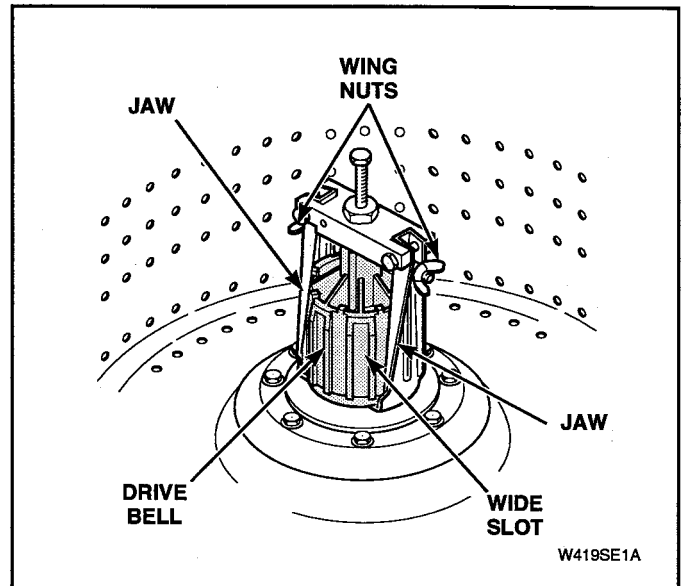

Figure 5-13
- Place tool over drive bell, making sure indent on jaws line up with wide slots on drive bell. See Figure 5-13.
- Place lip of each jaw under bottom edge of drive bell, making sure indent on jaws line up with wide slots on drive bell. Tighten wing nuts on tool to hold jaws firmly against drive bell. See Figure 5-13.